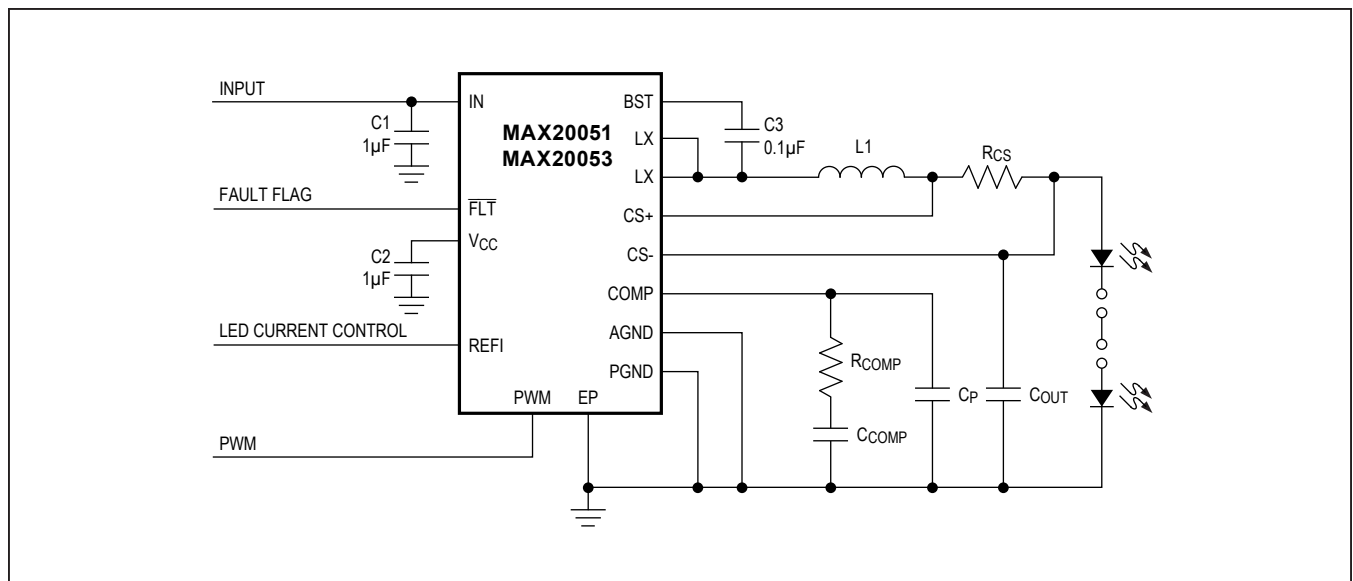

Figure 3. Typical Application Circuit Using the MAX20051
Normal sensing of the LED current should be done on the high side where the LED current-sense resistor is connected to the inductor. The other side of the LED current-sense resistor goes to the anode of the external LED string. The LED current is programmed using  $R_{CS}$  (see Figure 3). When REF1 is left open, the voltage at REF1 is clamped to 1.3V. When REF1 is open, the internal reference regulates the voltage across  $R_{CS}$  to 220mV. The current is given by:
The MAX20050/MAX20052 have internal loop compensation and there is no user-available adjustability of the loop compensation components. In the case of the MAX20051/MAX20053, an external COMP pin is present and an external compensation network is required for stable operation. See Figure 3 for the typical application circuit using the MAX20051.
- 1) Large switched currents flow in the IN and PGND pins and the input capacitor C1 of Figure 3. The loop formed by the input capacitor should be as small as possible by placing this capacitor as close as possible to the IN and PGND pins. The input capacitor, device, output inductor, and output capacitor should be placed on the same side of the PCB and the connections should be made on the same layer.